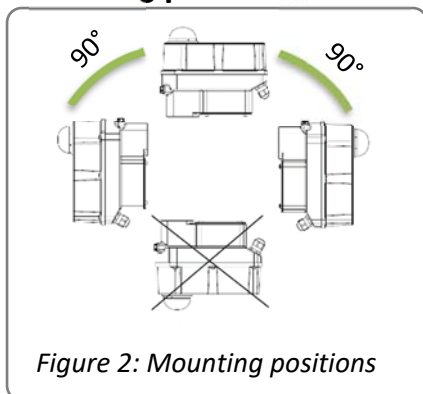

Figure 2: Mounting positions
- The actuators must be installed with sufficient clearance to remove the cover (Figure 1). The mounting position is arbitrary with the exception of "cover down" (Figure 2).